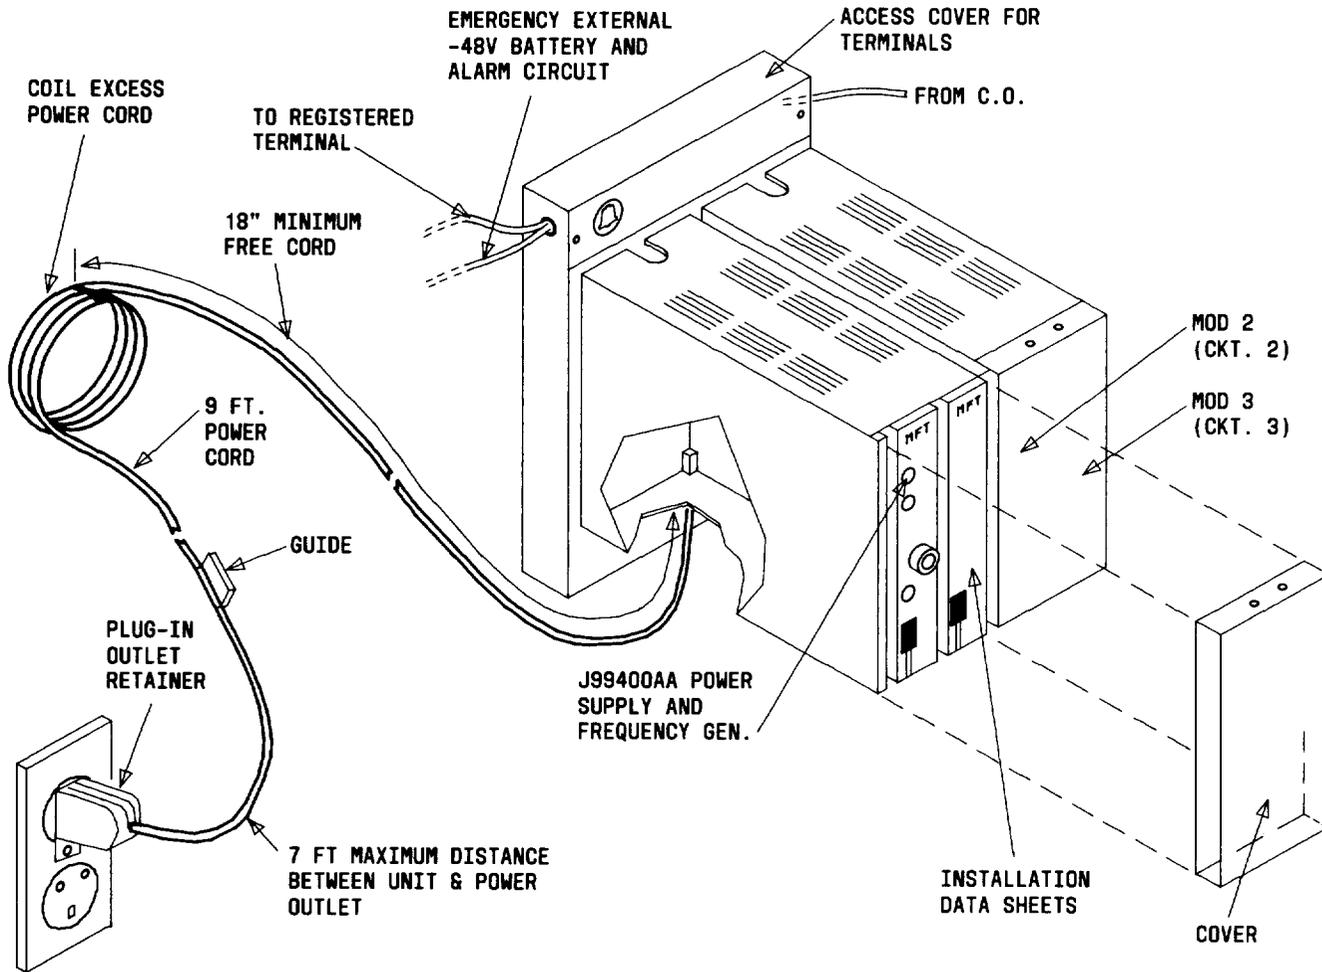
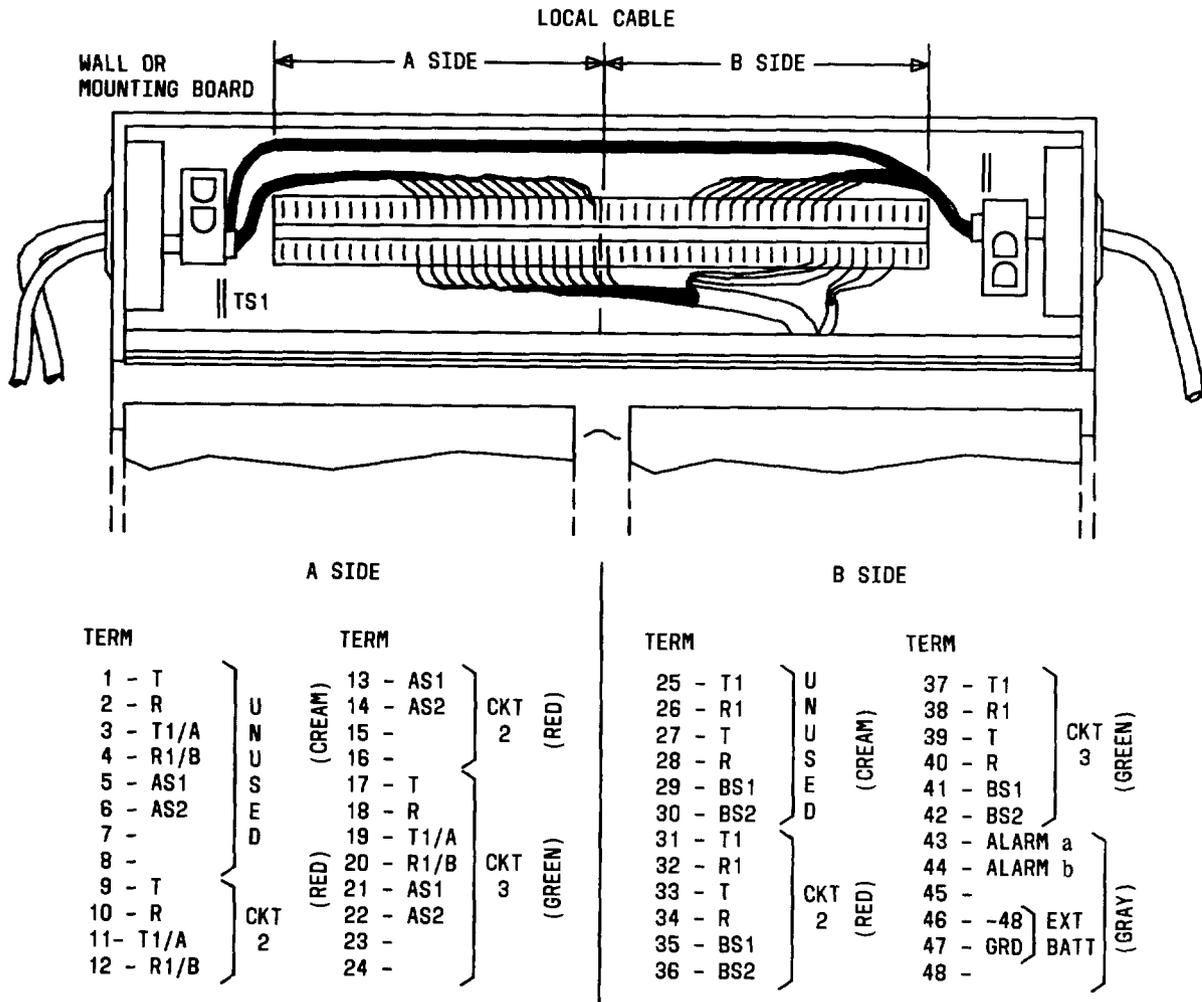

Fig. 1—Typical Layout of J99400A Housing Assembly
Fig. 2—Lead Designation and 94-Type Connector
1.03 The J99400A PMFTA Housing shown in Fig. 1 accommodates up to two Metallic Facility Terminal (MFT) plug-in units. The assembly also provides plug-in slots for both the J99400AA Power Supply/Frequency Generator and the ED-7C223 Group 1 Installation Data Sheet module. More detailed descriptive information on this assembly is given in Section 332-610-101.
2.02 Basic installation of the housing requires mounting it to a proper wall mount, making interface lead connections, and providing access to a 117 Vac power outlet. Figure 1 gives the basic layout of this assembly. Figure 2 is the lead plan of the 94-type interface connector. Chart 1 is the installation instructions.
- 1 This J99400A Housing Assembly (Fig. 1) must be located within 7 feet of a 117 Vac outlet unless an extension cord is used. The ac power shall not be connected until installation is completed.
- 4 To access the local cable 94-type connector mounted at the top of the J99400A Housing Assembly mounting plate, remove the terminal access cover by (1) loosening the two screws on the top of the mounting plate, (2) slipping the cover equipped with keyhole mounting slots forward, and (3) lifting the cover upwards and over the screwheads.
- 5 Leads shall be installed in accordance with Fig. 2 using an R-4710 impact tool. Wiring sizes that may be terminated on the 94-type connector are 22, 24, and 26 gauge. Functional designations are marked beside each 94-type connection terminal (punching). All functional designations of a given circuit are marked on the same color background, with the adjacent circuit functional designation marked on a different color background. The 94-type connector color-coded backgrounds correspond to color-coded circuit designation decals located on the mounting plate under each circuit module position. Circuit function should be marked on the decal by the installer under the circuit designation. Registered terminal equipment wiring along with optional alarm and external battery wiring access the assembly from the left (facing), whereas, the central office wiring accesses the assembly from the right (facing). Secure strain relief clamp tightly around the cabling at each end of the 94-type connector (Fig. 2).
- 8 The ac power cord should be restrained by cable guides at approximately 1-foot intervals between unit and power receptacle. However, at least 18 inches of free cord extending from the bottom of the unit is required so that a test extender can be used for power supply maintenance. Any excess ac power cord should be coiled and restrained as shown in Fig. 1. The test extender, if supplied, is stored in a separate holder.
- 9 Plug in the 117 Vac power cord and install power plug retaining clamp to the 117 Vac outlet as shown in Fig. 1.
- 4 Spare fuses for the J99400AA power supply/frequency generator are located on the J99400A Housing Assembly terminal access cover (Fig. 1).
- 2 To install a replacement connector in the plastic housings, reverse the 928A connector replacement instructions. Be sure to reinstall the 117 Vac plug retainer on the power receptacle as shown in Fig. 1.